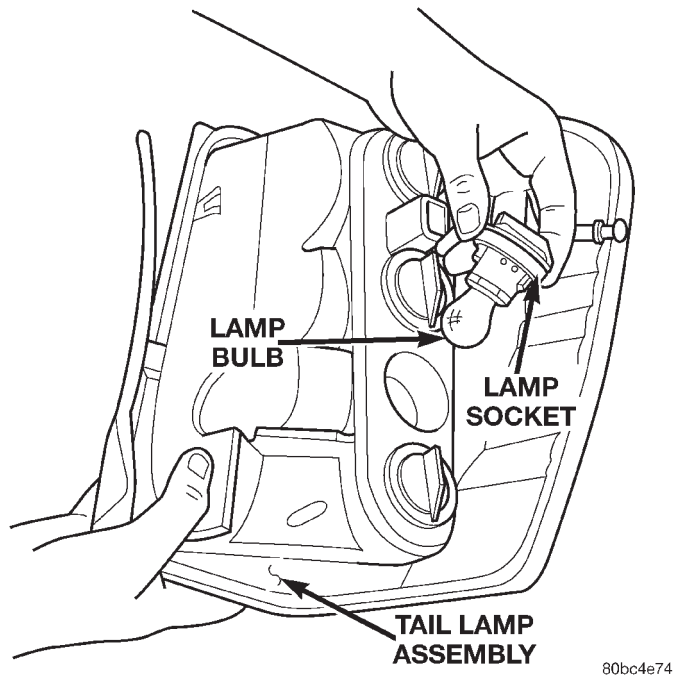

Fig. 15 Tail Lamp Socket Installation
(1) Install the lamp sockets in the tail lamp assembly (Fig. 15).